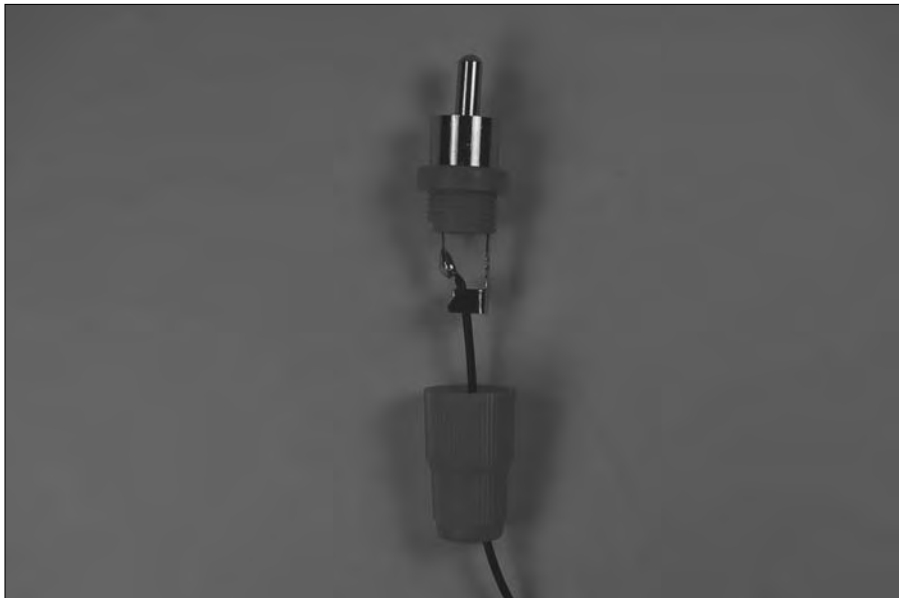

Figure 7-17:
16. Unscrew the top from each phono plug, slip the top over the wire, and solder each wire from the tactile switches to the center lug of a plug, as shown in Figure 7-17.